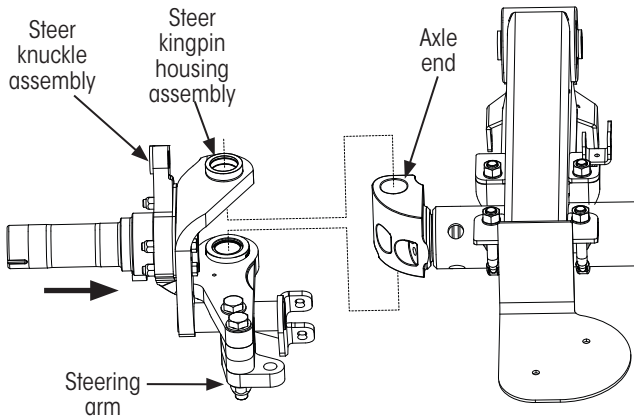

Figure 29: Steer knuckle installation
5. **Position** the steer knuckle (Figure 29) over the axle end and align to kingpin hole.